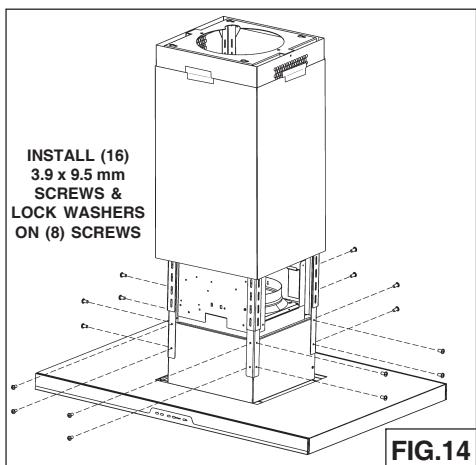

FIG.14
1. Adjust the overall height of the support frame. Loosen and re-tighten the 4 screws in the **height adjustment slots** as necessary. Insert 16 screws (3.9x9.5mm), and 8 washers (D.6.4x12.5mm) located in the Hardware Package (Fig.14).